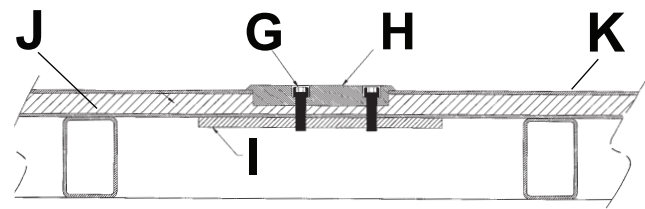

Figure 4 – Anchor floor plate into recessed openings
4. Using two 3/8" diameter (grade 8) socket head cap screws (G), anchor each floor plate (H) into the recessed openings with the counter-bored holes facing up (Figure 4).
- Steel backing plates (or equivalent) (I) (not supplied) are required for added support (Figure 4).